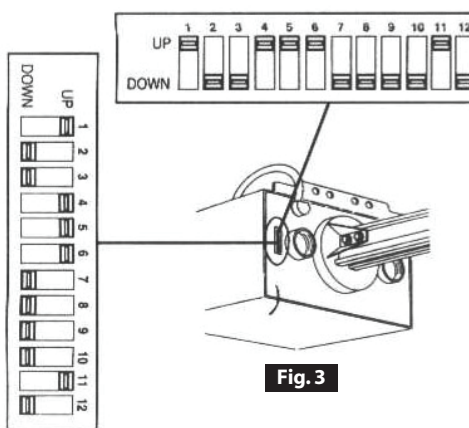

Fig. 3
- Step 2-1** Locate Operator Code Switches on Door Operator. **Fig. 3**